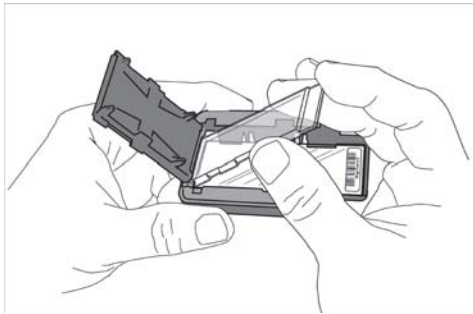

Figure 3 Inserting the ozone-barrier slide cover
- In environments in which the ozone level exceeds 5 ppb, immediately put the slides with Agilent barcode facing up in a slide holder with an ozone-barrier slide cover on top of the array as shown in Figure 3.
- 17 Immediately put the slides with Agilent barcode facing up in a slide holder with an ozone-barrier slide cover on top of the array as shown in Figure 3 on page 68.